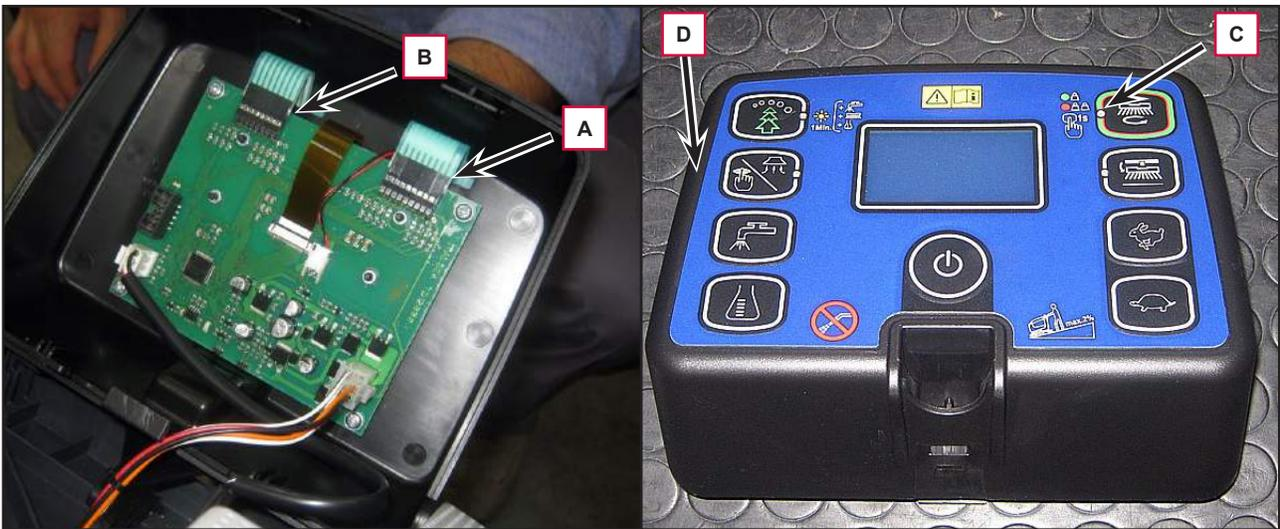

Figure 17
9. Disconnect the following connections sequentially (Figure 17):
- (A) Flat connection (J3).
- (B) Flat connection (J4).
10. Carefully raise the dashboard instrument board (C), detaching it from the cover (D).